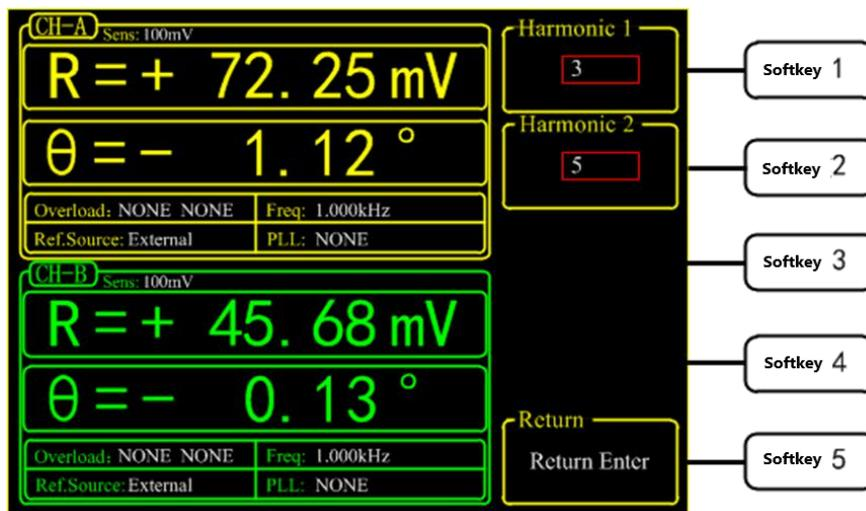

Fig.94 Harmonic Secondary Submenu
First, press the [soft key 4] in [REF PHASE] menu to choose [harmonic] submenu as is shown in Fig.94.